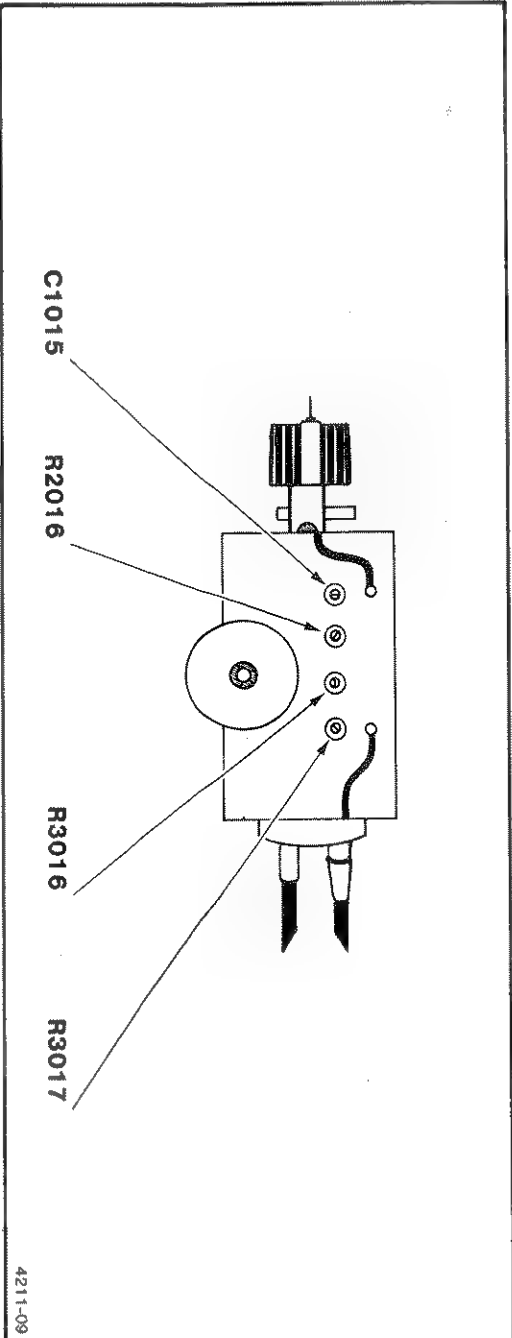

Figure 4-1. P6230 adjustment locations.
Adjustable component locations are shown in Figure 4-1. Only the adjustable components are illustrated in this figure.
f. ADJUST — R3017 (see Figure 4-1) for minimum trace shift while rotating the INPUT BIAS/OFFSET VOLTAGE control back and forth.